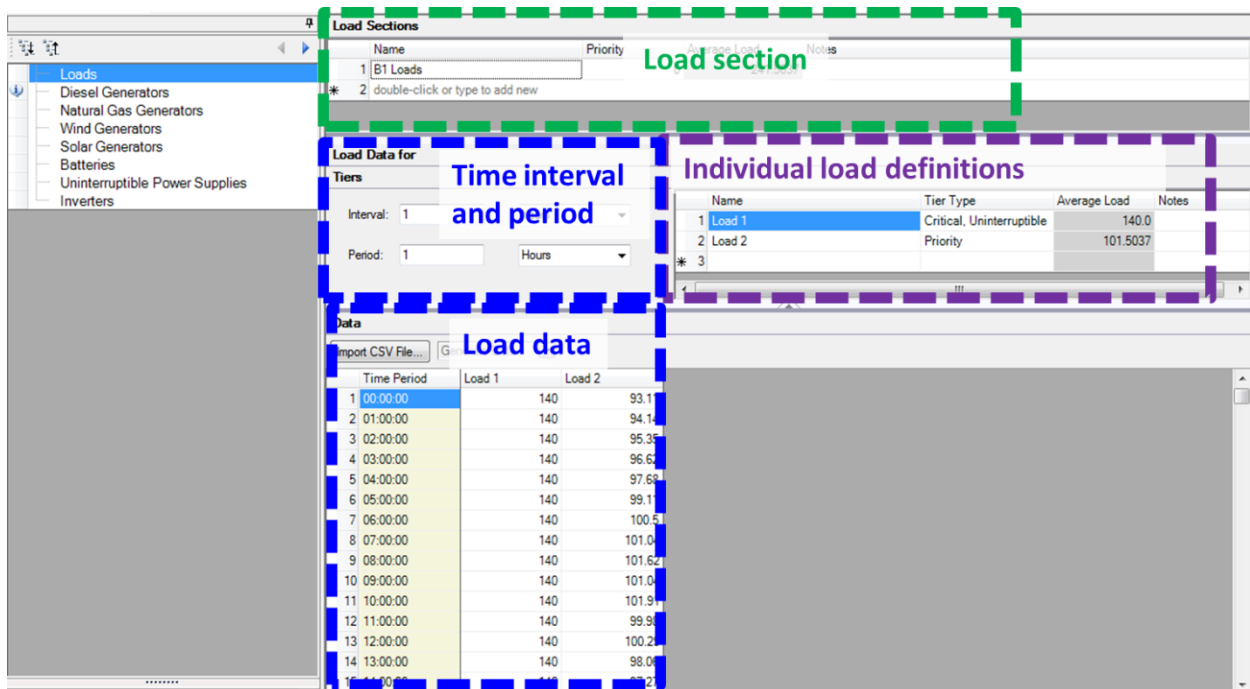

Figure 32. Load section page overview.
Load Section (highlighted in green in Figure 32)
- **Individual loads** (highlighted in purple in Figure 32)
- **Load Data** (highlighted in blue in Figure 32)
- **Data** (highlighted in blue in Figure 32)